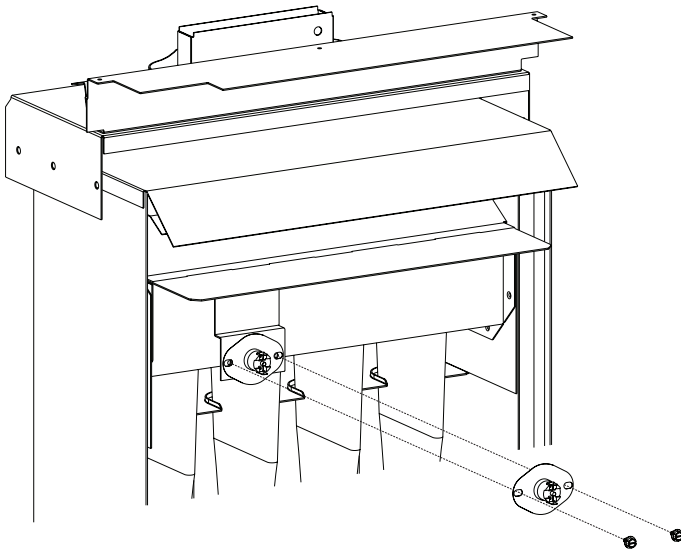

Figure 2
4. Remove vent safety switch by removing (2) #8 x 1/4 inch screws. **See Figure 2.**